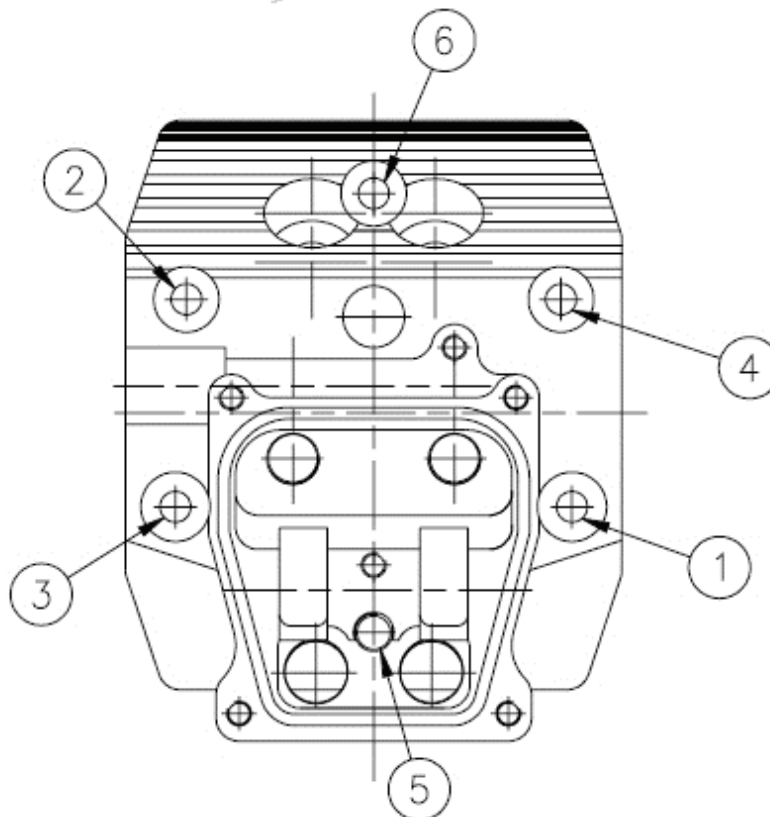

Figure 7-10: Head Bolt Locations. Number 5 is hidden behind rocker chamber oil plug.
5. Refer to Figure 7-10, Head Bolt Locations. Note that there are 6 head bolts. Bolt Number 5 is located at the 6 o'clock position of the head, behind the rocker chamber. To access this bolt, the plug must be removed from under the rocker arm shaft center bolt. Use the 3/16 Allen key to remove the plug.
6. Torque head bolts to 20 ft-lbs moving in a criss-cross pattern around the head (see Figure 7-10). Do not loosen bolts first - just apply 20 ft-lbs to the head bolts as they are. A 4" long 1/4 Allen key is needed for the head bolt behind the plug at the 6 o'clock position.